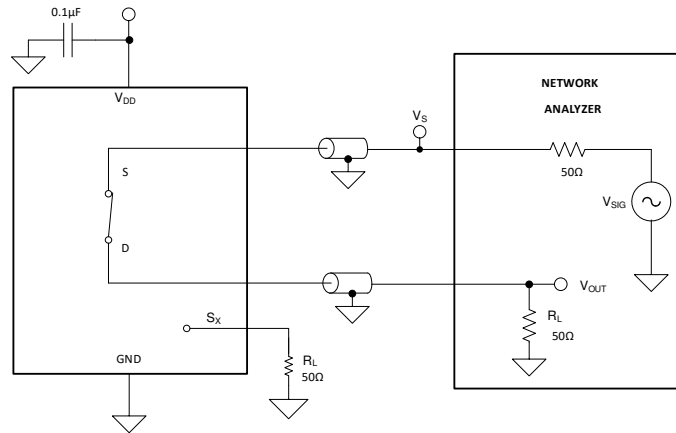

**Figure 14. Crosstalk Measurement Setup**
Crosstalk is defined as the ratio of the signal at the drain pin (D) of a different channel, when a signal is applied at the source pin (Sx) of an on-channel. Figure 14 shows the setup used to measure, and the equation used to calculate crosstalk.